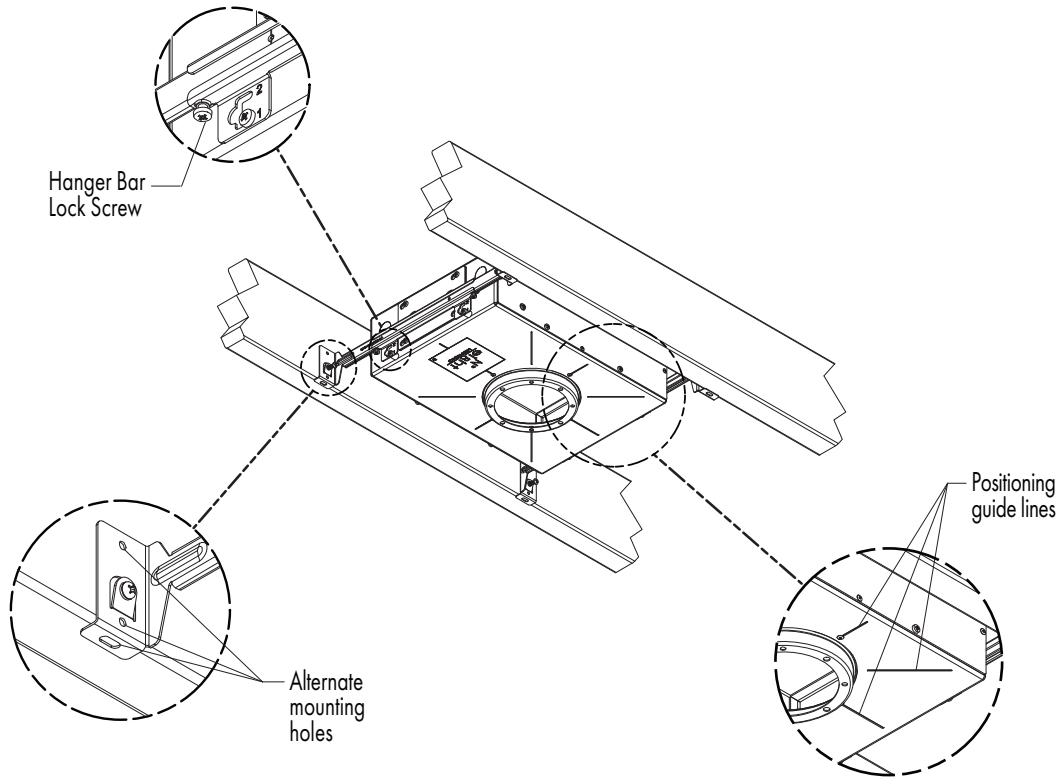

FIG 5.1 Fastening Housing to joists
- STEP 1 Spread Hanger Bars to approximate joist spacing. Temporarily secure Lock Screws to keep Housing from sliding along Hanger Bars – **FIG 5.1 & 5.2.**
- STEP 2 Secure Housing & Hanger Bar assembly to Joists using either the fasteners supplied on Hanger Bars or fasteners through alternate mounting holes – **FIG 5.1.**
- STEP 3 Reposition Housing along Hanger Bars as needed. Use guide lines to help locate Housing relative to nearby walls or other fixtures – **FIG 5.1 & 5.2.**